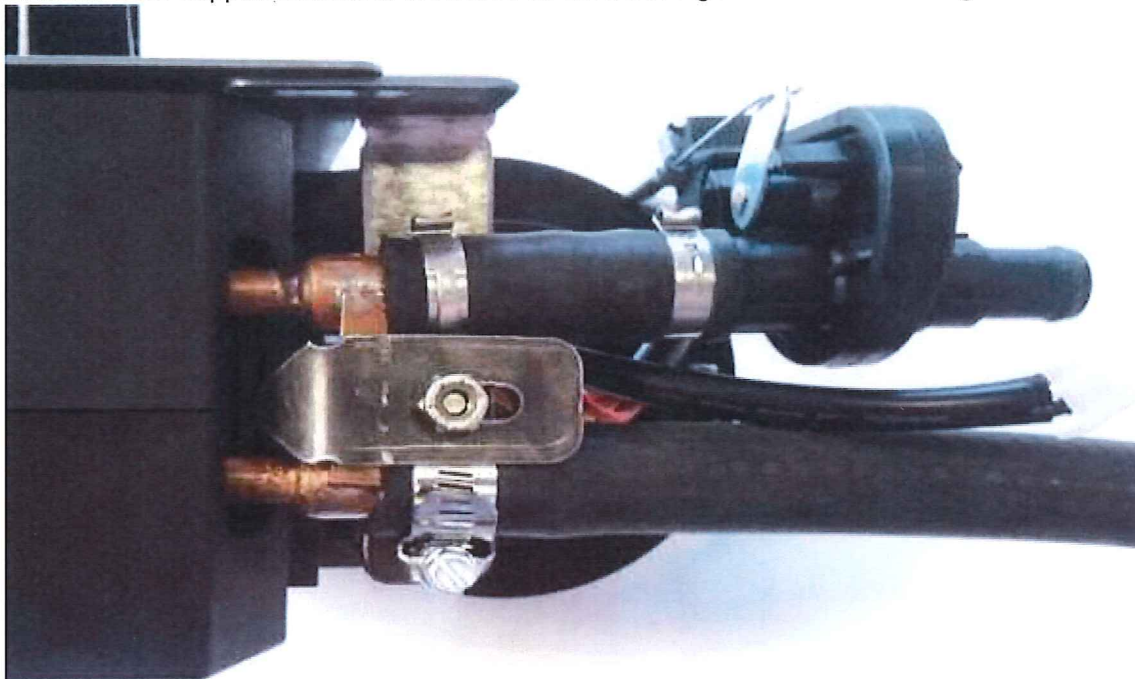

Figure 3
20. Attach the Heater Hoses to the Heater Unit (*note the lower hose clamp placement in Figure 3*):
21. Install the Heater Core Support Bracket to the hoses as shown in Figure 3. **Do not over tighten.**